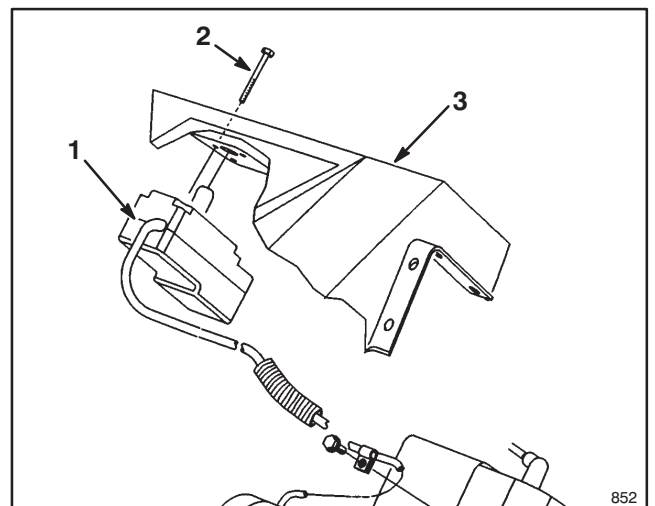

Figure 4
6. Remove (3) three screws securing switch assembly to upper shroud (Fig. 4). Save screws for later reinstallation.